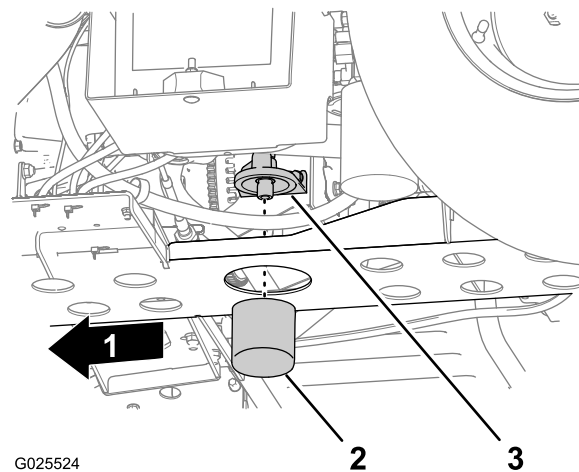

Figure 55
4. Remove the oil filter from the filter adapter (Figure 55).
5. Wipe clean the sealing base of the of the filter adapter (Figure 55).
7. Install the filter until the gasket contacts the sealing base of the filter adapter, then tighten the filter clockwise and additional 1/2 to 2/3 of a turn (Figure 55).